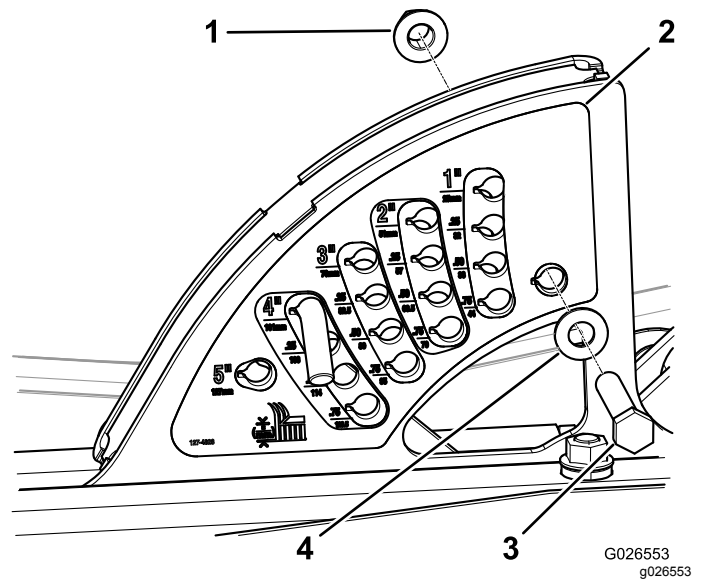

Figure 6
3. Affix the new height-of-cut decal to the bracket (Figure 6).
4. Install the bolt (1/2 x 2-3/4 inches), flat washer, and locknut (1/2 inch) in the lower rear hole of the new decal as shown in Figure 6.